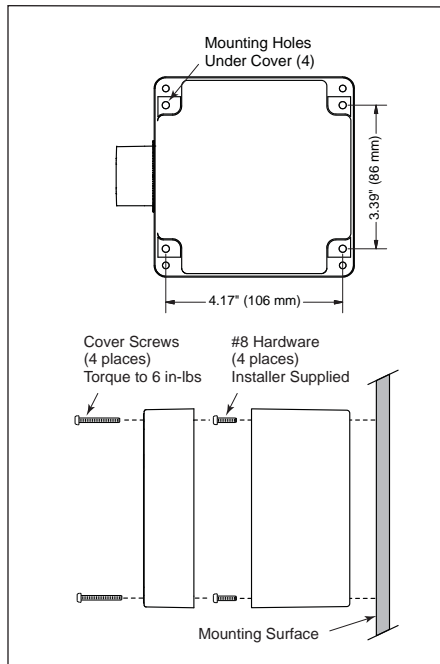

Figure 2-3. Wall Mounting Using Internal Mounting Holes
- Gain access to the internal mounting holes by first removing the SPD's four front cover screws, and then removing the front cover. See Figure 2-3.